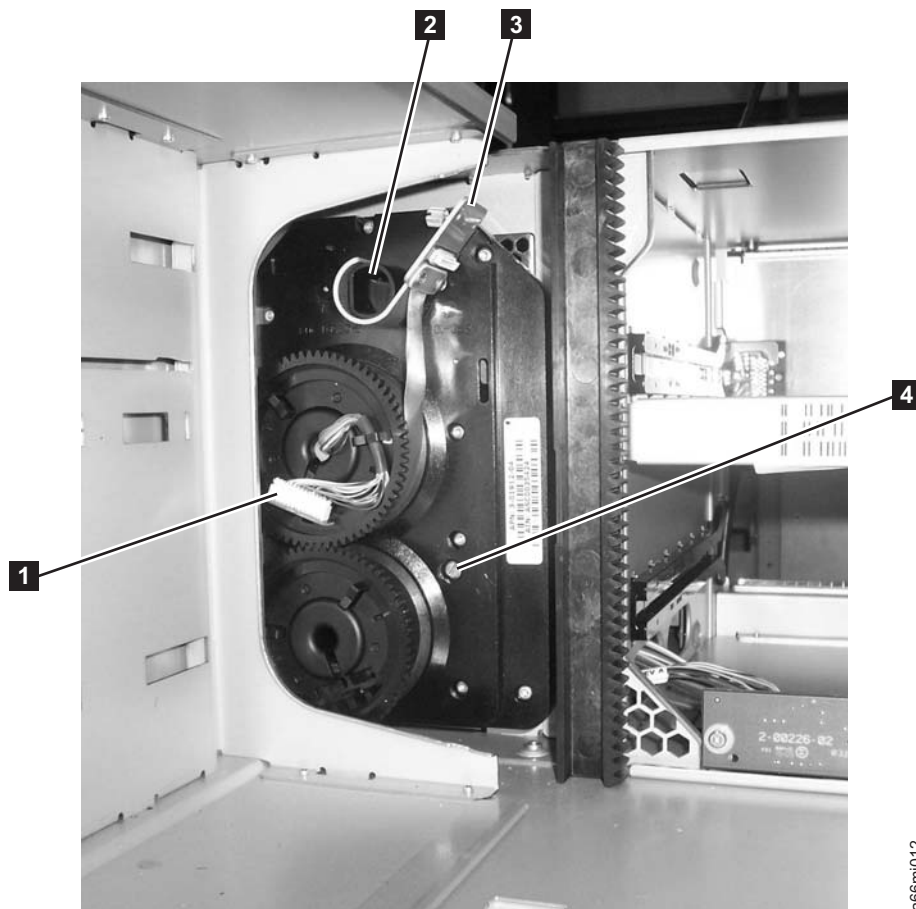

Figure 8-45. Cable Spool (with storage columns removed)
7. Carefully lower the Cable Spool connector (**1** in Figure 8-45 on page 8-49) and hook it around the black plastic guide peg (**2** in Figure 8-45 on page 8-49).
3. Remove the Cable Spool connector (**3** in Figure 8-45) from the black plastic peg (**2** in Figure 8-45).